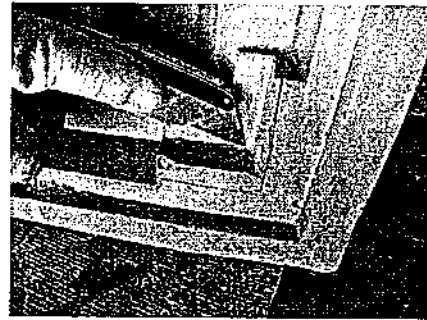

Fig. 2
- 2) If the top course of corners has the screw hems cut off, face screw each piece 1" from the top so that the cap covers the screw heads. Place adhesive on inside cutouts as shown (Fig. 2).
- 2) Using a chisel or carpenter's knife, remove the 4 corner landings (Fig. 2)